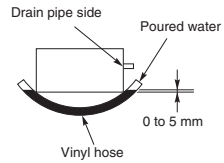

Fig. 3-8
- (5) The unit should be adjusted using water level or as shown in Fig. 3-8 so that the drain pipe side is slanted 5 mm lower than the opposite side.